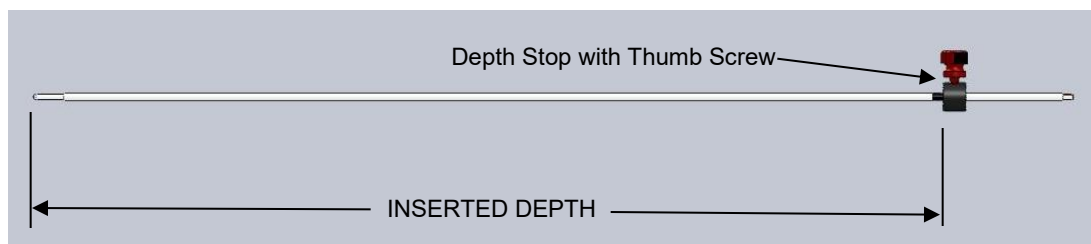

Figure 183: Stylet with Depth Stop attached to the Insertion Depth
5. When utilizing the Depth Stop, the inserted depth of the Stylet is defined by the distal side face of the Depth Stop to the distal tip of the Stylet. **See Figure 183.** Slide the Stylet into Device Lock until Depth Stop rests on top of Device Lock. Then tighten Device Lock. Confirm the length using the Ruler.